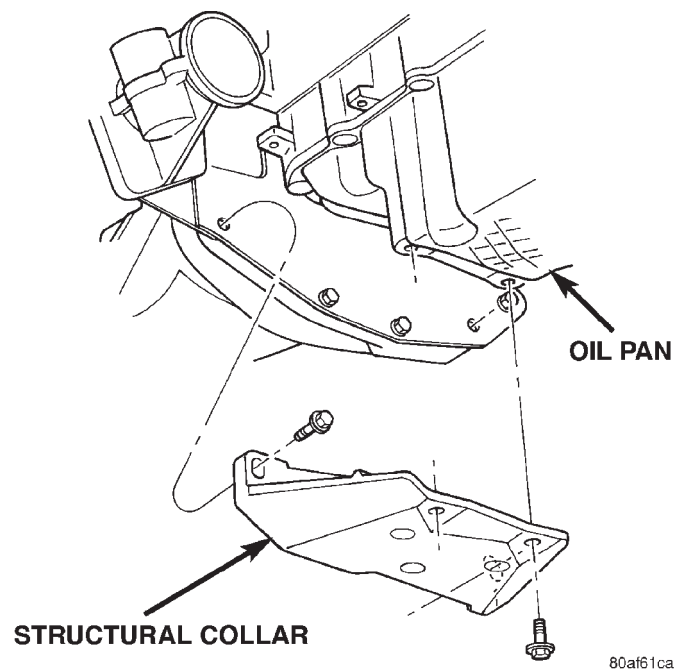

Fig. 86 Structural Collar—Removal and Installation
- (1) Drain engine oil.
- (2) Remove front engine mount bracket. Refer to Engine Mount—Front, in this section for procedures.
- (3) Remove powertrain bending strut.
- (4) Remove structural collar from oil pan to transaxle (Fig. 86).
- (8) Install the structural collar (Fig. 86) using the following 3 step torque sequence:
- (9) Fill engine crankcase with proper oil to correct level.